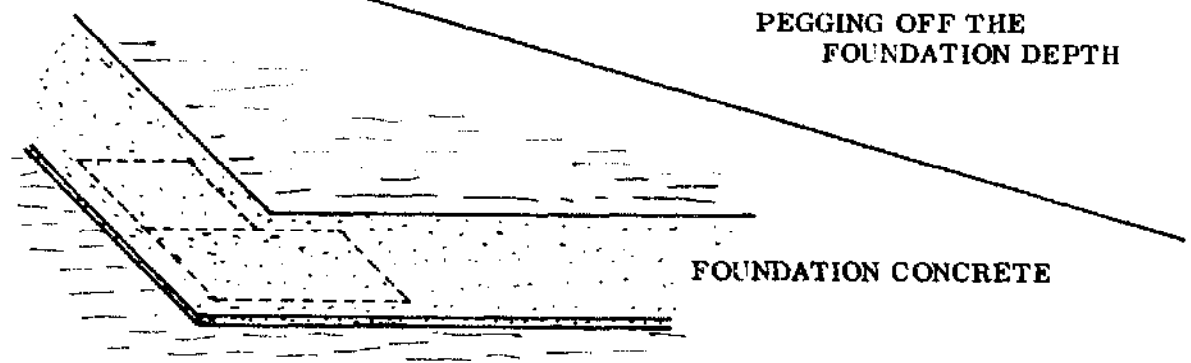

Fig. 3
- After the foundation concrete is cast and set hard, set out the footings directly on the surface of the foundation (Fig. 3) and build them to the required height.